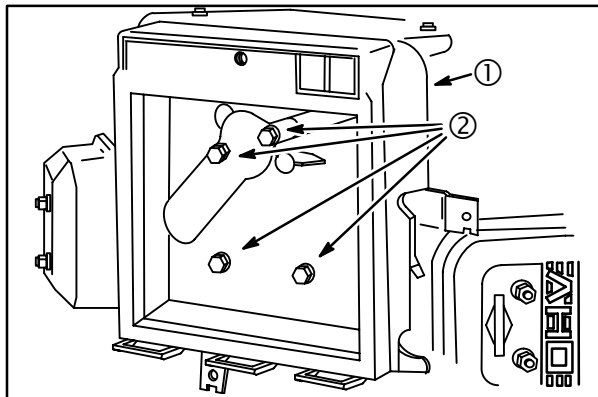

Fig. 38
**Early Style: (Square cartridge) Fig. 38.**
1. Insert mounting screws (2) through breather deflector, base (1) and gasket.